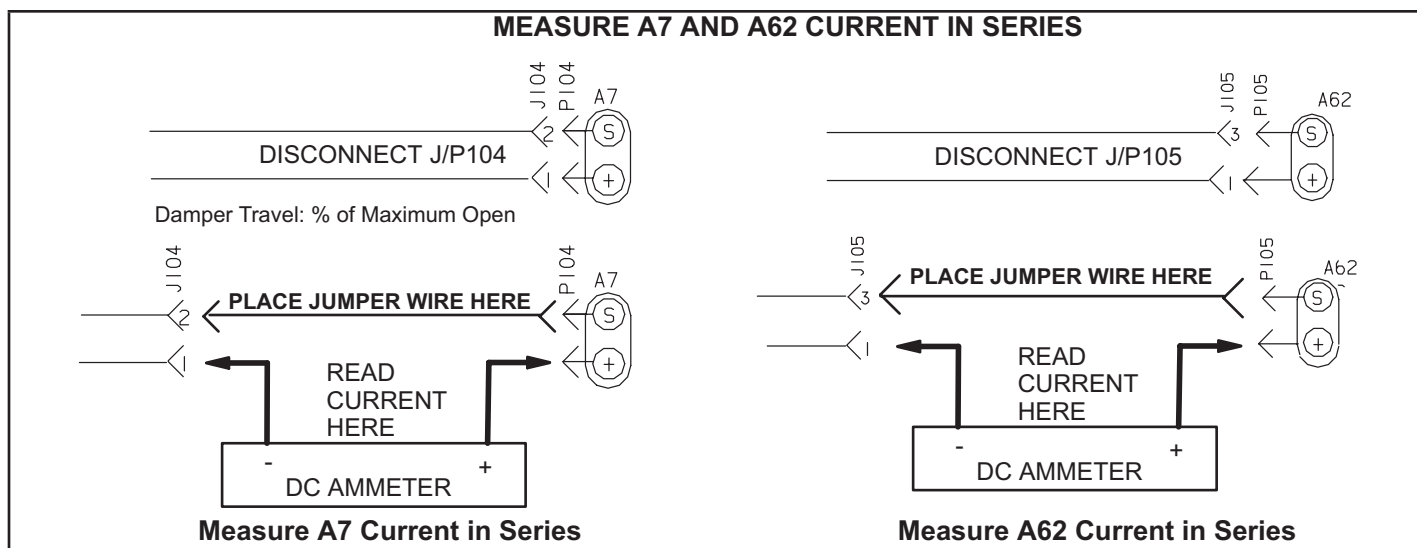

FIGURE 18
- A - Connect a direct current ammeter as shown in FIGURE 18 to measure current output of A7 or A62.